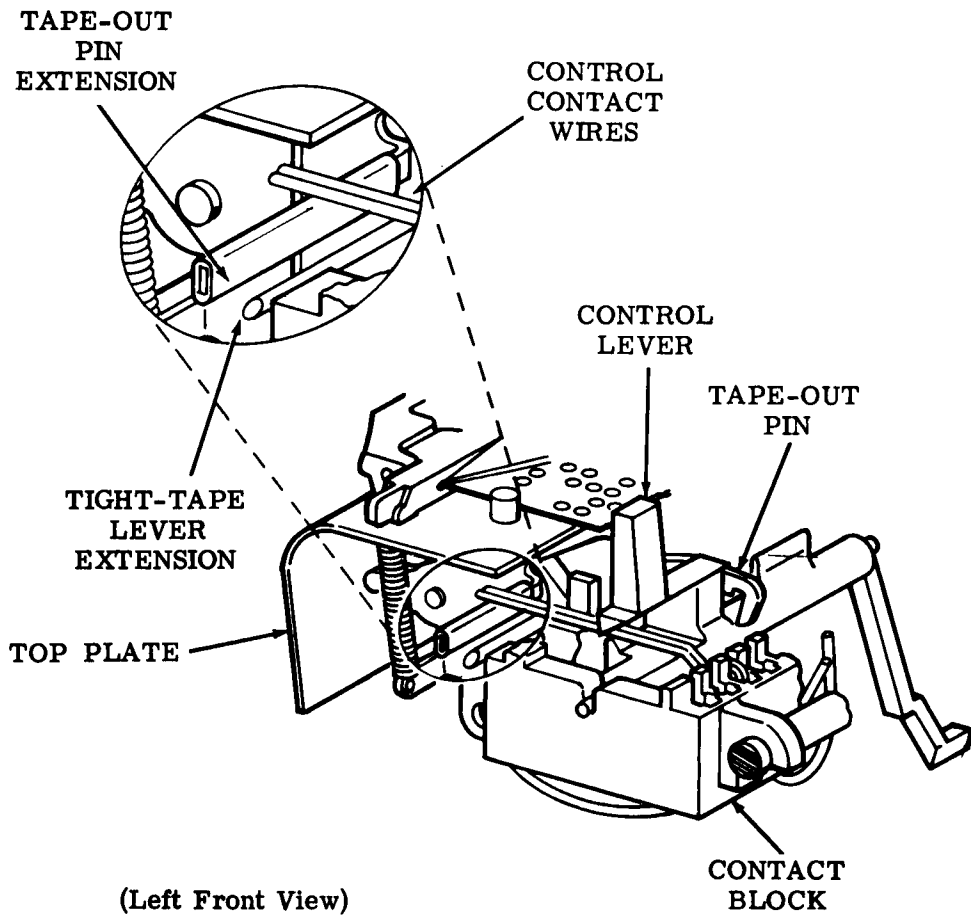

Figure 4 - Control Mechanism
3.07 There are three positions for the control lever: **START**, **STOP**, and **FREE**. When the control lever is moved to the **START** position (Figure 4), the spring biased control contact wires are positioned on the control contact. Since the control contact wires and the control